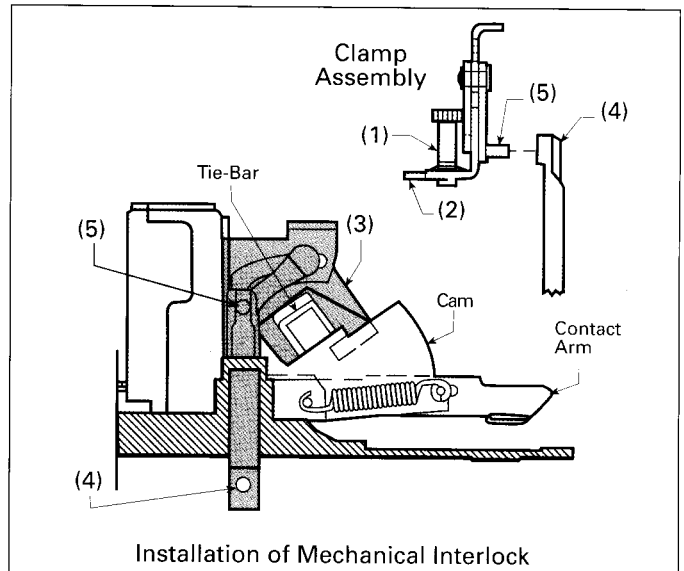

Figure 2
1. Screw the captive socket head cap screw (1) into the support threads (2) until it is flush with bottom of clamp assembly, as shown in Figure 2.
2. Hold clamp assembly at an angle, with front edge of clamp (3) over the right hand corner of the cam. Slide the clamp downward to align with the tie-bar, and rotate the clamp assembly over the tie-bar. Slide the clamp assembly approx. 1/2" to the left.
3. Insert the plunger (4) into the access hole in the base of the circuit breaker.
4. Slide the clamp assembly to the right, and insert the pin (5) into the plunger hole.
5. Secure the assembly in place using the cap screw (1). Tighten to 140 in-lbs.